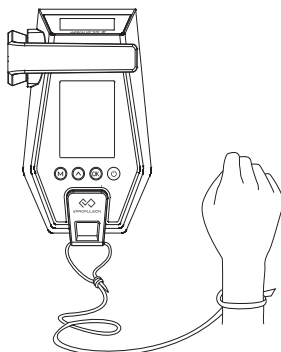

Figure 4-2
Step2: Attach the other end of the kill switch to your wrist or life vest (Figure 4-2).